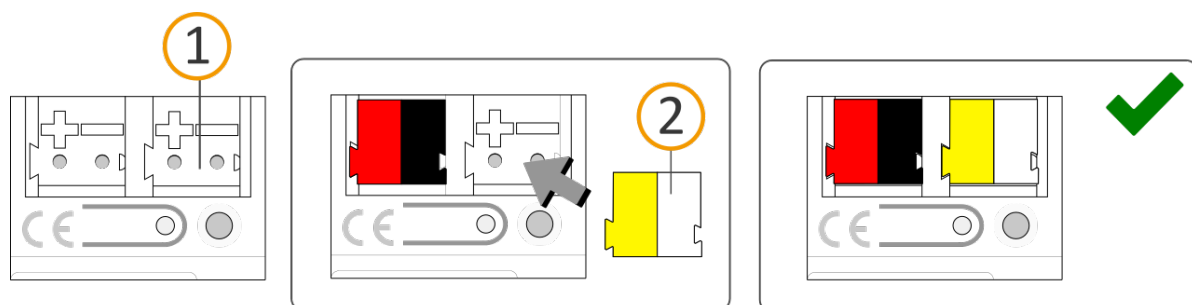

Figure 10: Connect the power supply
3. Connect the external power supply to the power supply terminal (see figure 10, item 1) using the supplied power connection terminal (see figure 10, item 2). Polarity: left/yellow: "+", right/white: "-".
- a. Attach the power connection terminal (see figure 10, item 2).